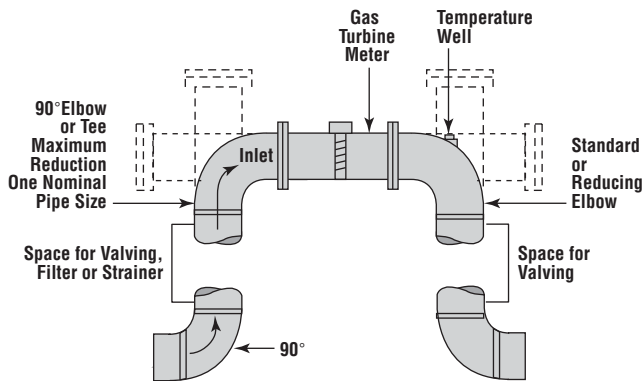

Figure 3
3. **Offset, Close Coupled** Sensus Turbo-Meters manufactured since October, 1974 incorporate integral straightening vanes. This design eliminates the need for long inlet runs and enables Turbo-Meters to be close-coupled as illustrated in Figure 3.